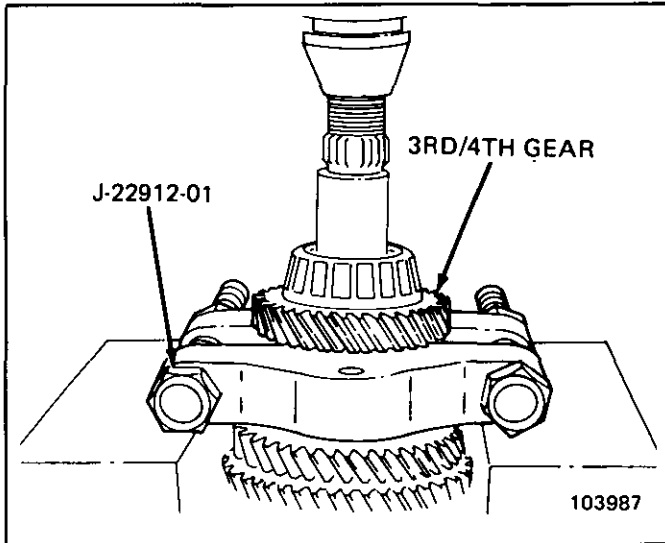

Figure 29 Rear Output Bearing
2. Remove the rear bearing and 3rd/4th gear simultaneously using J-22912-01 and a press (Figure 29).